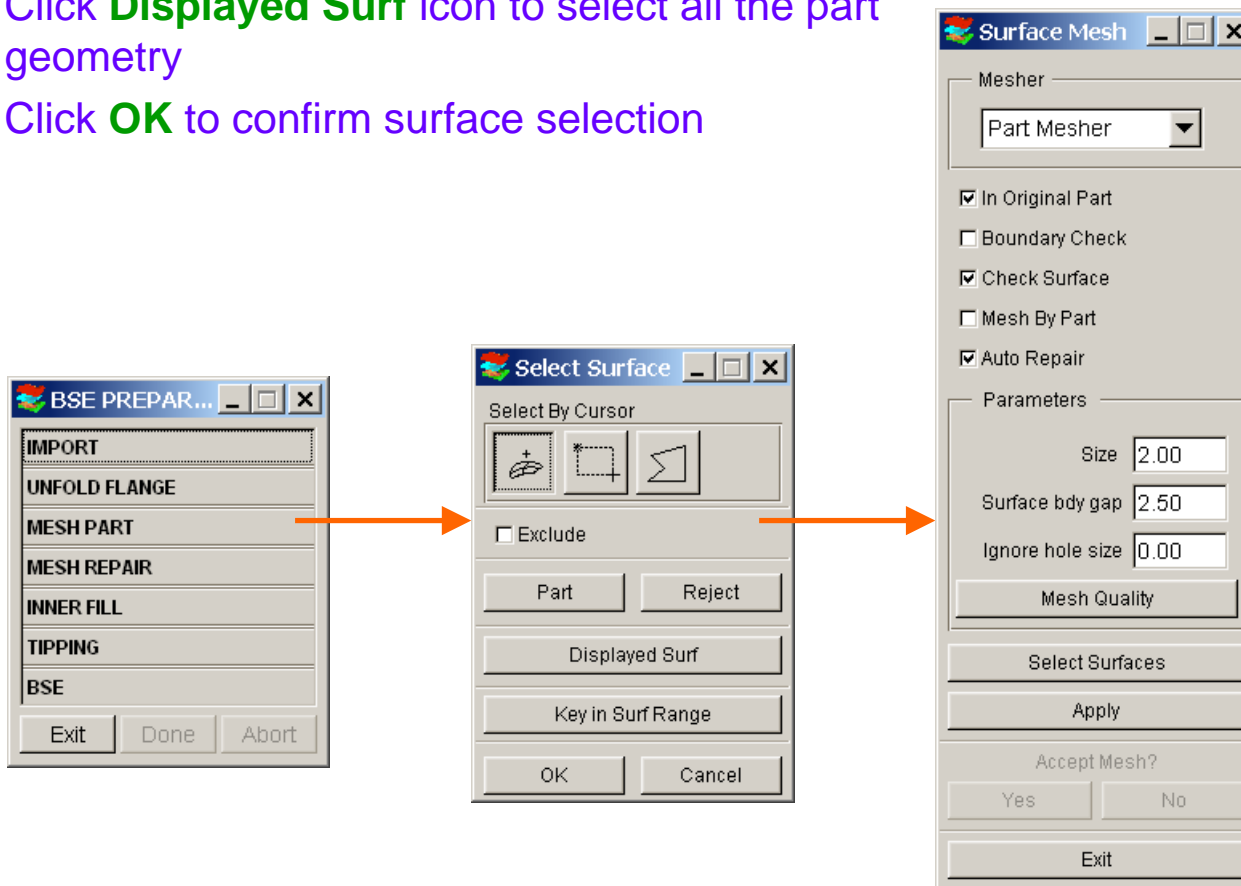

Figure 1.4
- a) Select **MESH PART** (See Figure 1.4)